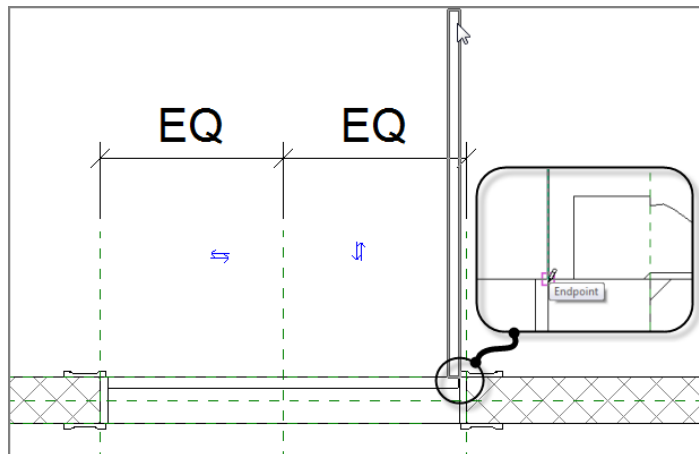

FIGURE 17.26: Drawing the symbolic door swing
2. Draw a line straight up from the right corner of the jamb (on the exterior side of the wall) 4'-0" (1200mm), as shown in Figure 17.26.
5. Draw another line to the right 1 3/8" (35mm) (see Figure 17.26).